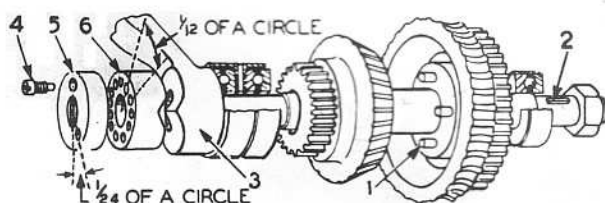

FIG. 47 Longitudinal Feed Clutch Assembly
1. Remove dog screw (4) Fig. 47.
2. Unscrew collar (5).
When assembling the apron, be certain that the key in the longitudinal feed clutch shaft (2) Fig. 47, is in line with the keyway in the casting. It would be well to chalk the shaft end and mark the position of the keyway on it.
Friction adjustment collar (5) Fig. 47, has two holes, the lower hole being one-twenty-fourth of the circumference out of line with top hole. The cam next to it (6) Fig. 47, has 12 holes. By entering screw (4) alternately in upper and lower hole, adjustment of one-twenty-fourth of a revolution is possible.
This requires no special instructions. To reach the friction clutch, the worm and gear shafts must be removed first. The clutch is similar to that shown in Fig. 47. When assembling it, make sure that the four plungers (1) Fig. 47, and the small springs behind them are in their proper places. These should move quite freely and should be cleaned from all gum when the clutch is apart.